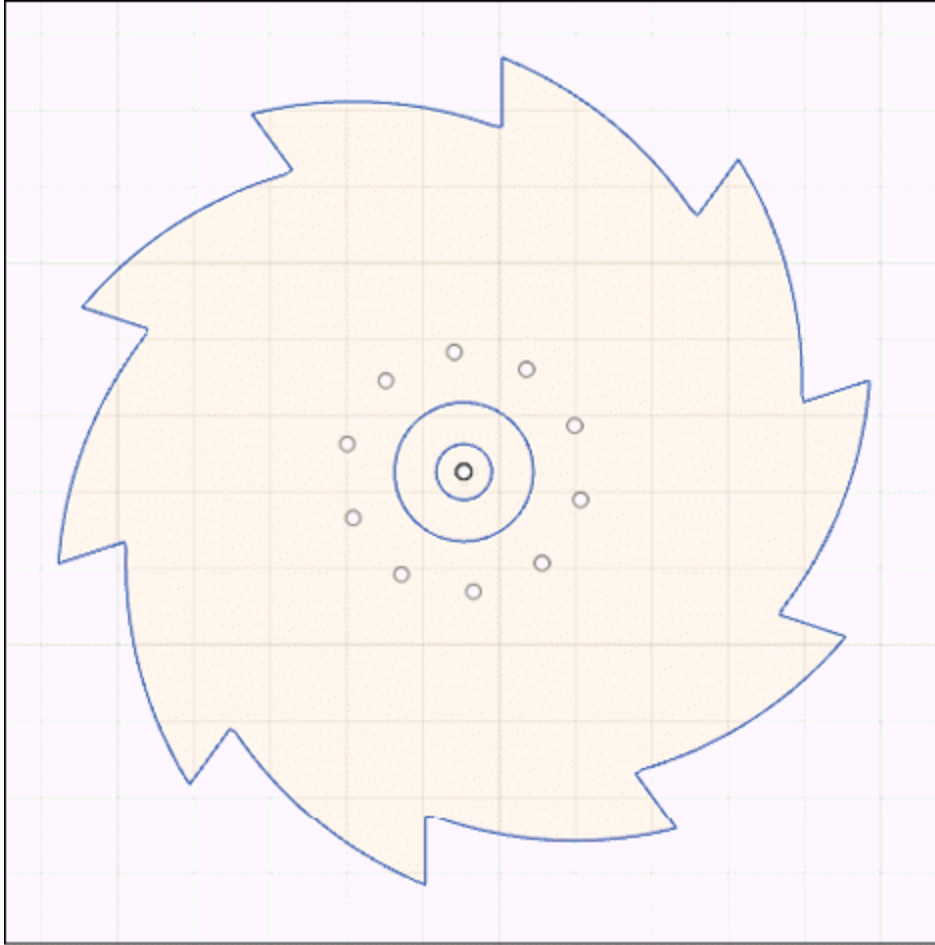

Figure-31. After removing extra entities
- After removing the extra entities from sketch, the sketch will be displayed as shown in Figure-31.